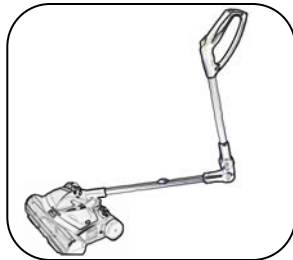

Fig. 11
5. To sweep under furniture, press the handle release button and apply pressure in order to bend the sweeper's handle forward. The top forward folding pivot will release from the locked position for increased range of motion, allowing you to easily reach under sofas, beds, and chairs. (Fig.11)